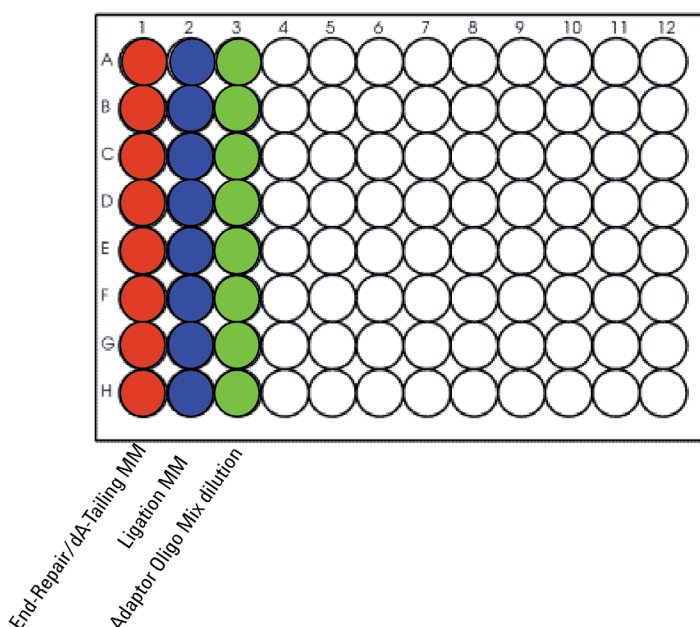

Figure 4 Configuration of the **Agilent Deep Well** master mix source plate for protocol **01 LibraryPrep_XT_HS2_ILM**
- 8 Prepare the **Agilent Deep Well** master mix source plate containing the mixtures prepared in step 5 through step 7. Add the volumes indicated in Table 32 of each mixture to all wells of the indicated column of the Agilent Deep Well plate. Keep the master mixes on ice during the aliquoting steps. The final configuration of the master mix source plate is shown in Figure 4.